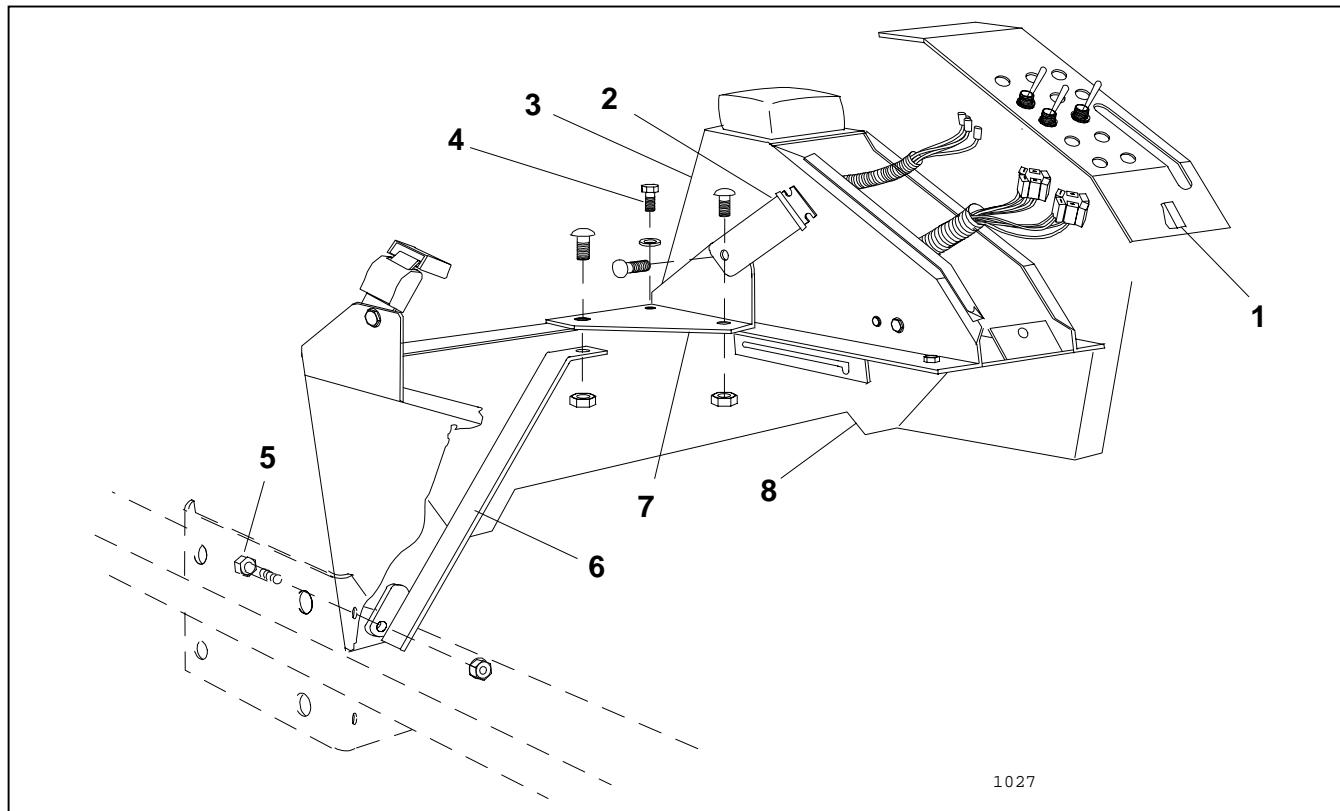
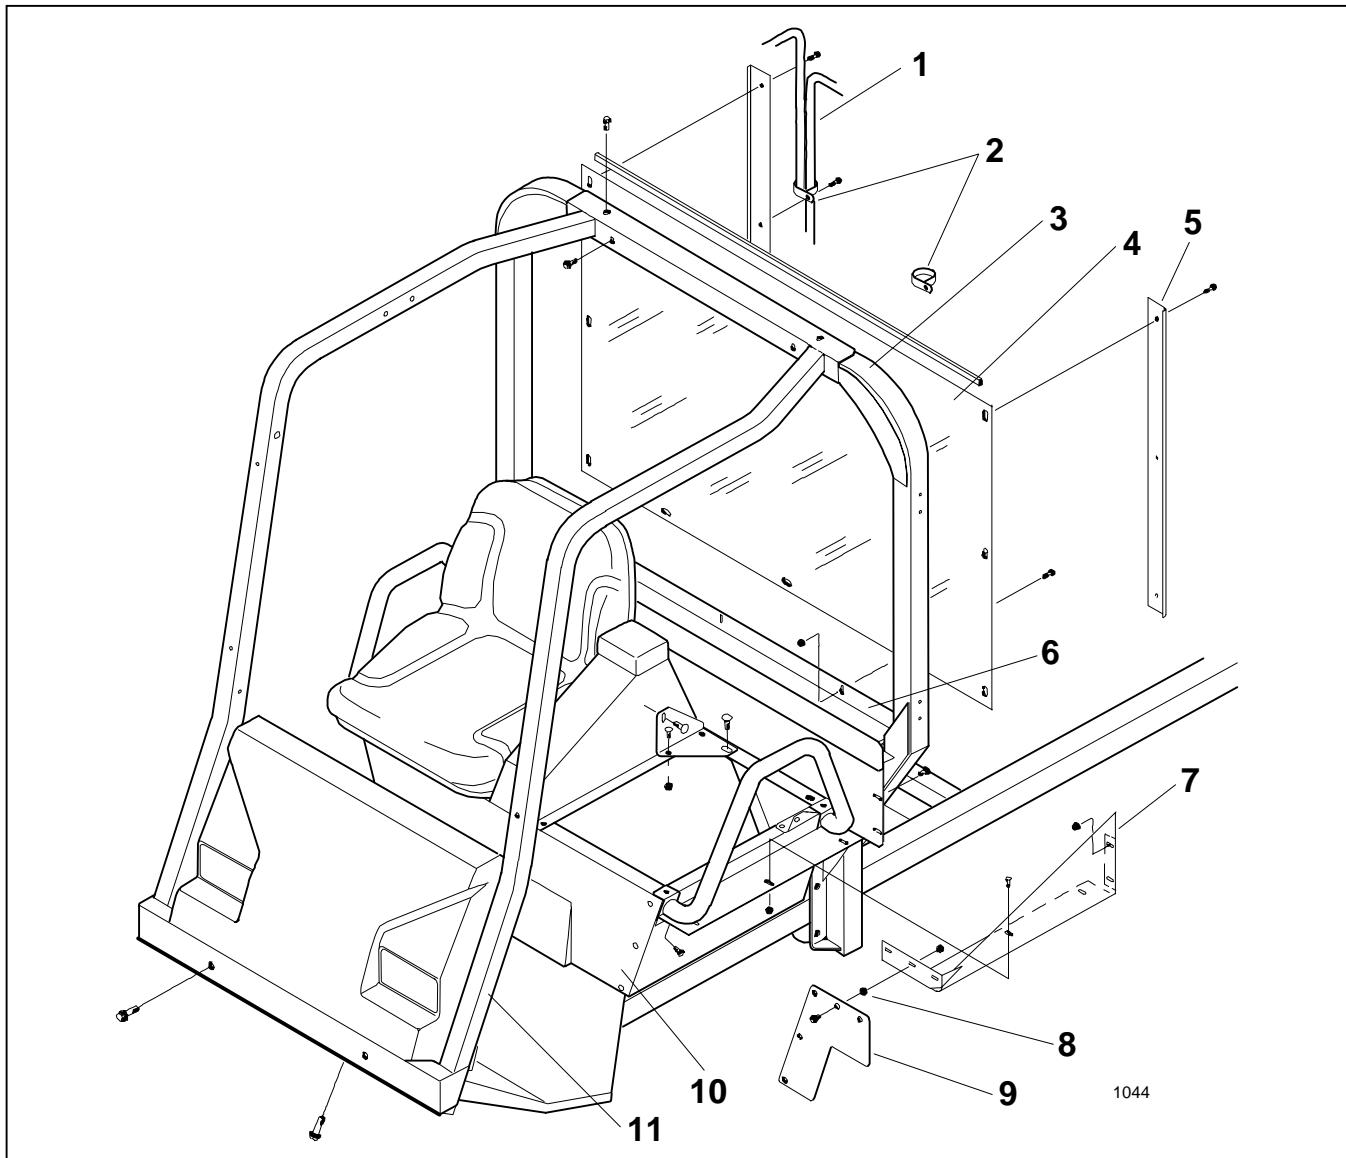

FIG. 4
FIG. 7
- 1.** Remove (2) 5/16" x 1" Center Console rear mount bolts and flatwashers. Save for future use. See FIG. 4.
- 2.** Install R.H. Inside Seat Belt Support, align mounting holes and reinstall 5/16" x 1" capscrew and flatwasher previously removed. The capscrew will pass through the rear of Center Console and the Seat Belt Support. Repeat for L.H. side. See FIG. 4
- 3.** Align R.H. Seat Box Support with lower rear mounting hole and insert 7/16" X 1-1/4" capscrew provided with kit. **NOTE: Nut will be installed later on R.H. side after Seat Box Panel is reinstalled.** See FIG. 4.
- 5.** Lift L.H. Seat. Remove the (2) capscrews, washers and nuts along top of Rear Panel Ass'y. Save for later use. Slide Rear Cab Panel under the (2) Inside Seat Belt Brackets. See FIG. 4 & FIG. 7.
- 6.** Align upper mounting hole of R.H. Seat Box Support under Rear Panel Ass'y and R.H. Inside Seat Belt Support. Secure with 7/16" x 1 1/4" carriage bolt and flange locking nut. Repeat for L.H. side. See FIG. 4. Align slots and replace hardware mounting Rear Cab Panel to Rear Panel Ass'y.
- 8.** Loosen Swell Latch and remove Switch Panel Assembly from Center Console Assembly. See FIG. 4.
1. Slide Front Bar Assembly onto bumper from front of vehicle. Slip channel around front bumper and top channel onto Rops Bar. See FIG. 7.
2. Loosely secure to Front Bumper with (4) 1/2" x 1-1/4" capscrews and flange locknuts and to Rear Bar with (2) 3/8" x 1" capscrews. See Fig. 7.
1. Mount Cab L.H. Side Panel assembly to L.H. Seat Box Panel. See FIG. 7.
- a. Remove (2) side carriage bolts from L.H. Hip Restraint.
- b. Secure L.H. Side Panel to L.H. Seat Box Panel with the (2) carriage bolts removed from Hip restraint in Step a.
- d. Secure L.H. Side Panel to Rear Cab Panel with (2) 5/16" x 3/4" short shouldered carriage bolts and flange locknuts.